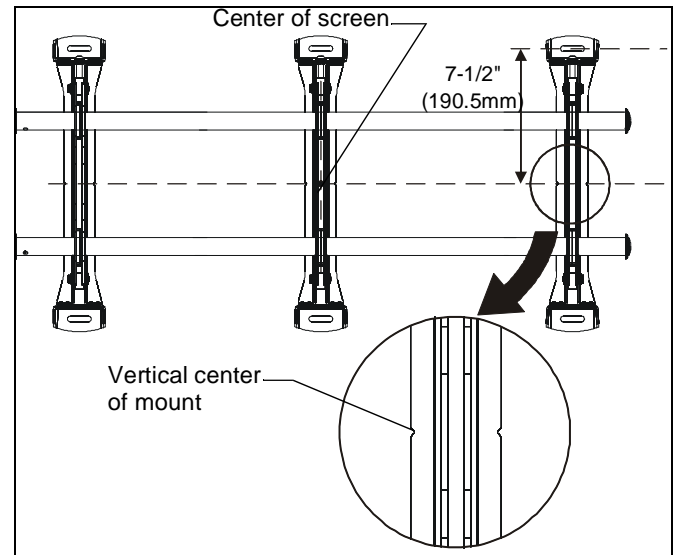

Figure 4
3. Line up the notches on mount with center of screen marking to determine vertical center. (See Figure 4)
- Line up the notches on mount with center of screen marking to determine vertical center. (See Figure 4)
- Measure up 7-1/2" (190.5mm) from the center point to mark location of the upper mounting slots. (See Figure 4)